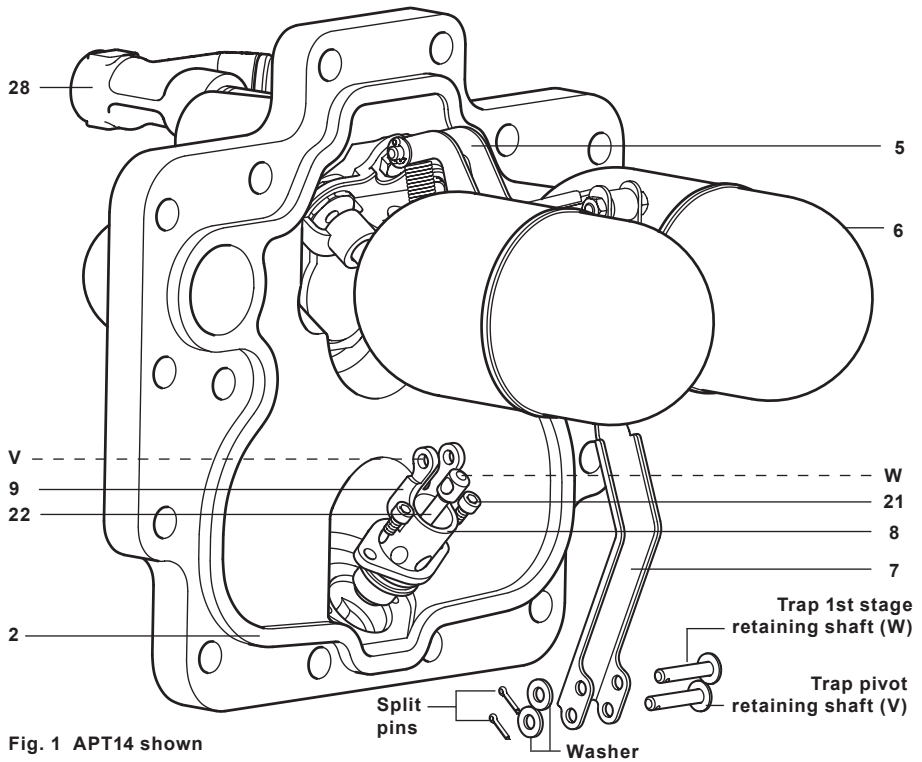

Fig. 1 APT14 shown
3. Carefully fit a new gasket (item 2) into the existing body.
4. Remove split pin, washer and shaft from the trap pivot (V) (See Figure 1).
5. Remove split pin, washer and shaft from the trap 1st stage valve (W).
6. The floats and levers (items 5, 6, 7) can now be swung out of the way leaving access to the trap and check valve assembly.
7. Using the 4 mm Allen key unscrew the two M5 cap screws (item 21).
12. Tighten the two M5 cap screws (item 21) to  $5 \pm 1$  N m ( $4 \pm 0.7$  lbf ft).
13. Refit the two shafts (V and W) (length 38 mm) - remembering to use new split pins and washers - to the trap housing (item 9) and trap 1st stage valve (item 22).
14. Move the floats to their upper and lower limits to ensure the trap mechanism operates smoothly and both the 1st stage and 2nd stage valves (items 22, 8) slide smoothly within their guides.